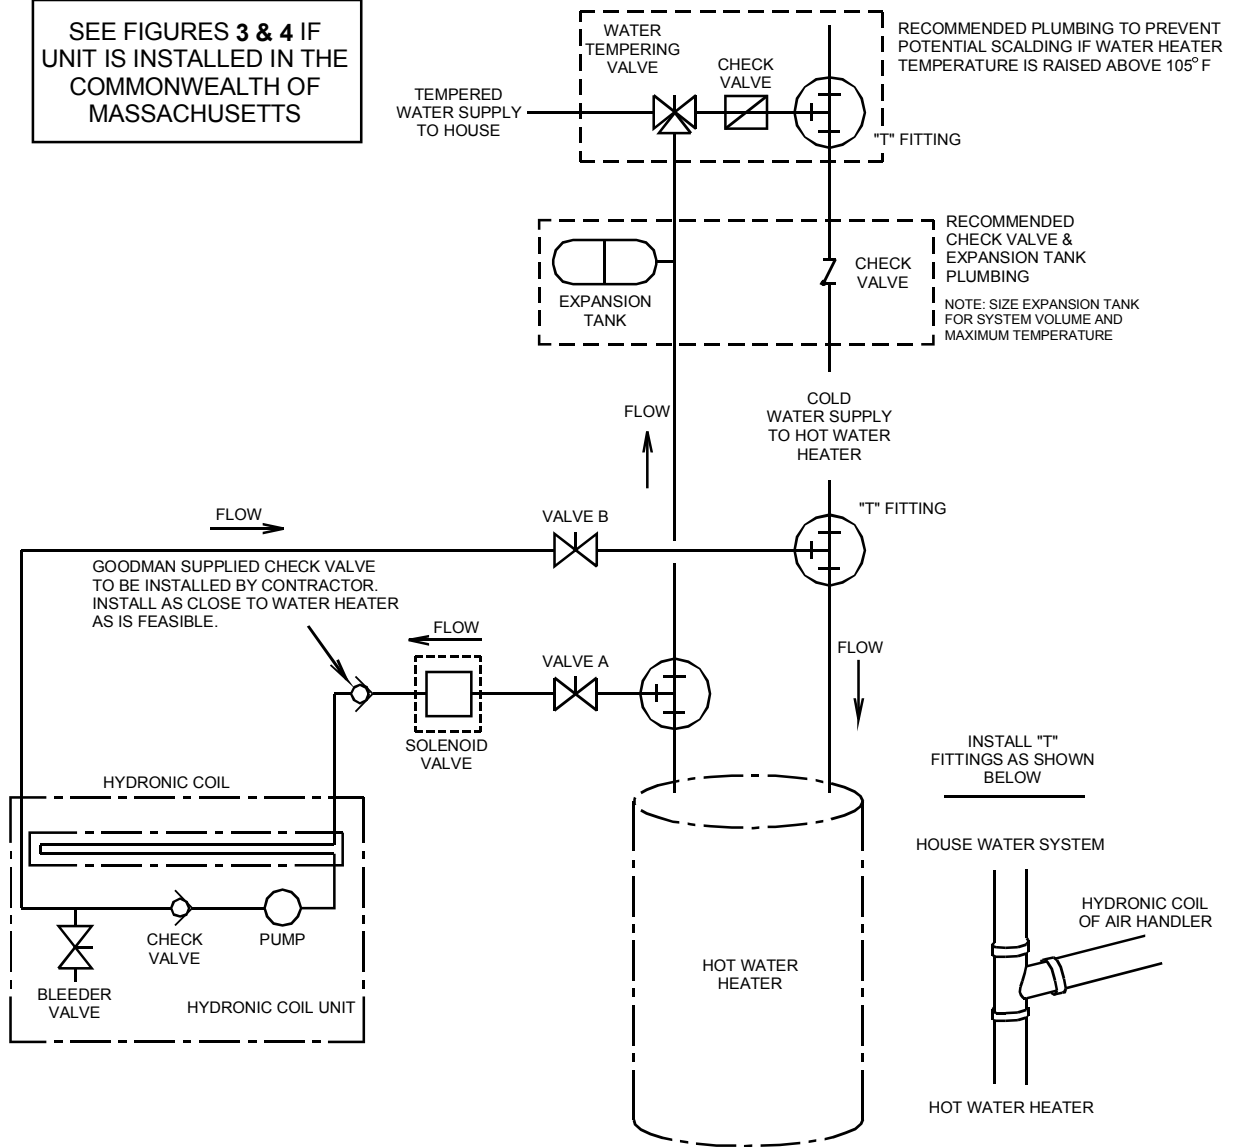

FIGURE 2
The connections to the hot water coil are 3/4" (7/8" O.D.) copper tubing. The hot water inlet is located on the top right of the unit (*a label on the unit clearly identifies the correct connection*). All piping connecting the fan coil to the house water system should be 3/4" (7/8" O.D.) copper tubing. This size tubing will prevent loss of head pressure. The total length of piping used to connect the fan coil to the water heater should not exceed 200 feet. Use "T" fittings at the water heater to connect into the house water system. These "T" fittings must be installed on the vertical hot and cold supply lines of the water heater as shown in Figure 2. The connections from the fan coil unit are made to the horizontal connection of the T" fittings. This will allow air to be purged from the system when water is used in the home. Between the fan coil and water heater connections, two valves (provided by the installer) must be installed to permit the purging of air in the system and also to allow the hot water coil in the unit to be separated from the house water system during servicing.
3. As shown in Figure 2, close the valve on the hot water supply from the water heater ("A") and open the valve on the cold water return to the water heater ("B"). Then open the air bleed valve in the fan coil. Use bucket or hose to discard water during purging process at air bleed valve. Purge air completely from lines.
A secondary check valve is to be installed on the inlet side of the unit. (Install the check valve as close to water heater as is feasible.) A spring loaded Watts Regulator 600 series 3/4" npt check valve is supplied with your unit for this purpose and may be installed in a vertical or horizontal position. Install the check valve as close to the water heater as is feasible. On AH units, the check valve is located behind the front panel and is secured to the hydronic tubing manifold with 2 wire ties. See Figure 2 for schematic diagram of secondary check valve.
NOTE: In the rare case that thermal siphoning occurs with secondary check valve installation, it is recommended that a solenoid operated valve be installed. See Figure 2 for schematic diagram of solenoid valve.